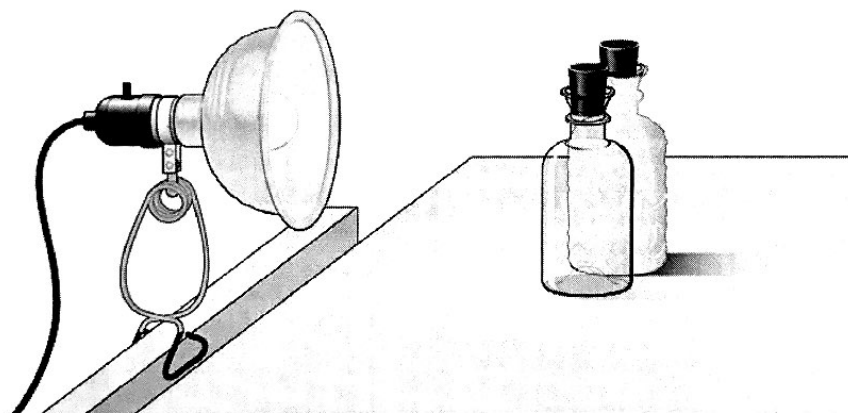

Figure 1 The light and dark bottle method of measuring oxygen production
One method of measuring the production of oxygen is the *light and dark bottle* method, as shown in Figure 1. In this method, sample water is placed into two BOD (biochemical oxygen demand) bottles. One bottle is stored in the dark and the other in a lighted area. Only respiration can occur in the bottle stored in the dark. Respiration rate is the decrease in dissolved oxygen (DO) in the dark bottle over time. Both photosynthesis and respiration can occur in the bottle exposed to light. The difference between the amount of oxygen produced through photosynthesis and that consumed through aerobic respiration is the *net productivity*. The difference in dissolved oxygen over time between the bottles stored in the light and in the dark is a measure of the total amount of oxygen produced by photosynthesis. The total amount of oxygen produced is called the *gross productivity*.
8. Place the dark and light bottle near a light source, as shown in Figure 1. Leave the light on for 24 hours.